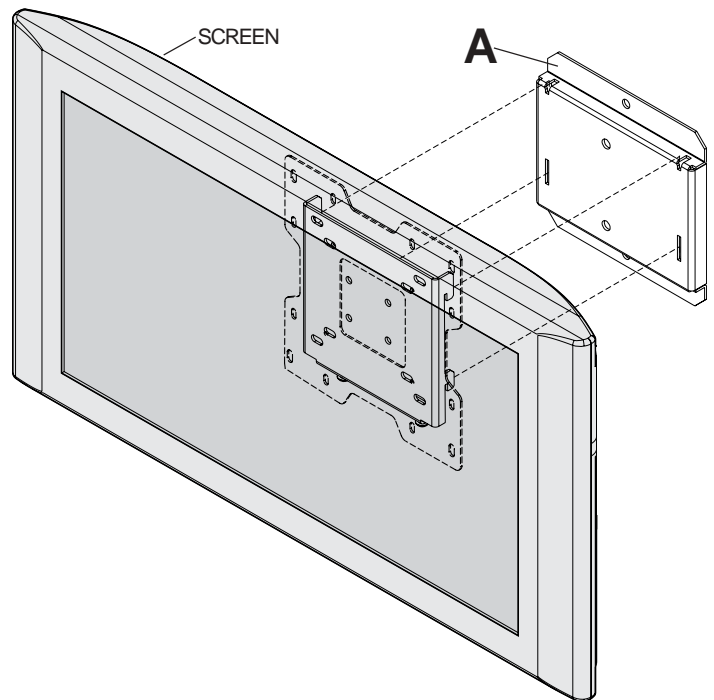

fig. 4.1
- 4 Hook screen onto wall plate (A) figure 4.1. Tighten M4 x 25 mm screws (P), shown in figure 4.2 and detail 1.
**Note:** For security models, use 4 mm security allen wrench (Q) to tighten M4 x 25 mm screws (P).